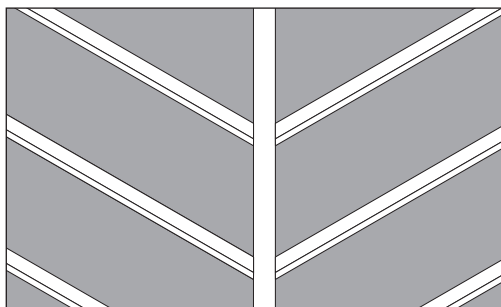

Fig 1 Neatly abut battens to hip rafter
- 2 Neatly mitre battens and abut to hip rafter or supplementary batten (Fig 1).